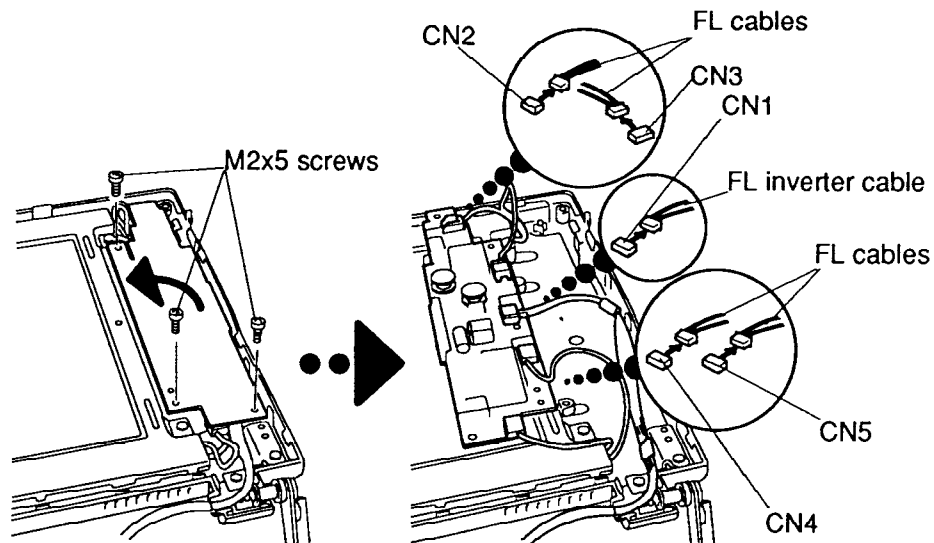

Figure 4-29 Removing the T4500C FL Inverter Board
To remove the T4500C's FL inverter board, follow the steps below and refer to Figure 4-29.
4. Carefully rotate the FL inverter board out from right to left and disconnect the **FL inverter cable** from **CN1** and the **four FL cables** from **CN2, CN3, CN4 and CN5** (Figure 4-29).
To install the T4500C's FL inverter board, follow the steps below and refer to Figures 4-29 and 4-30.
1. Connect the **FL inverter cable** to **CN1** on the inverter board and the **four FL cables** to **CN2, CN3, CN4 and CN5** (Figure 4-29).
4. Replace the **FL inverter board** and secure it with **three M2.5x6 screws** (Figure 4-29).